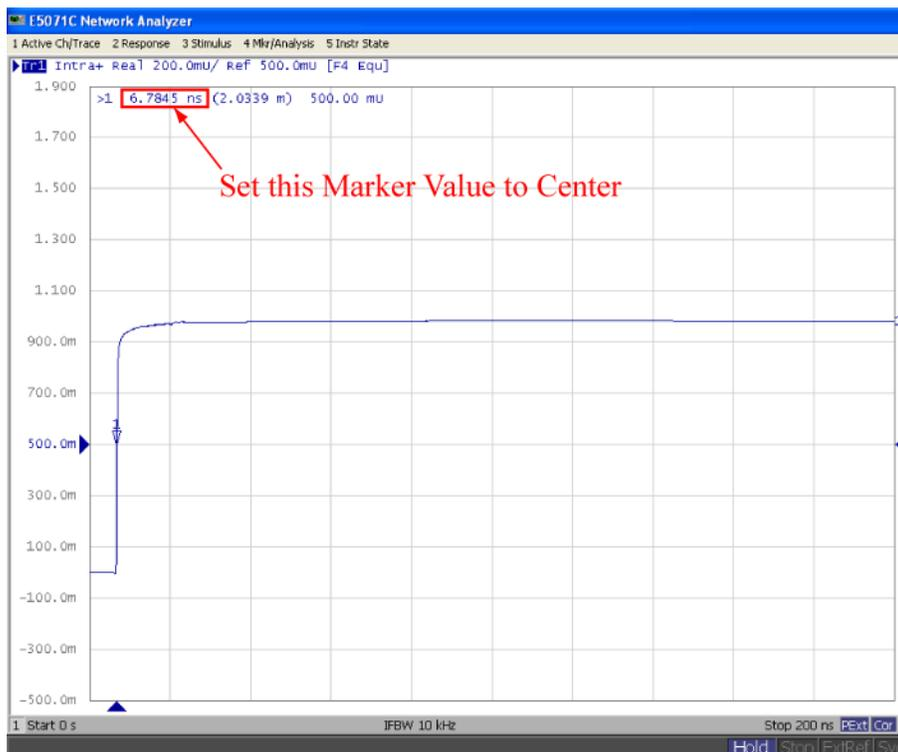

Figure 5-7 Marker Value to set Center
9. Press **Analysis > Transform > Set Center** to Marker Value. (Refer to Figure 5-7